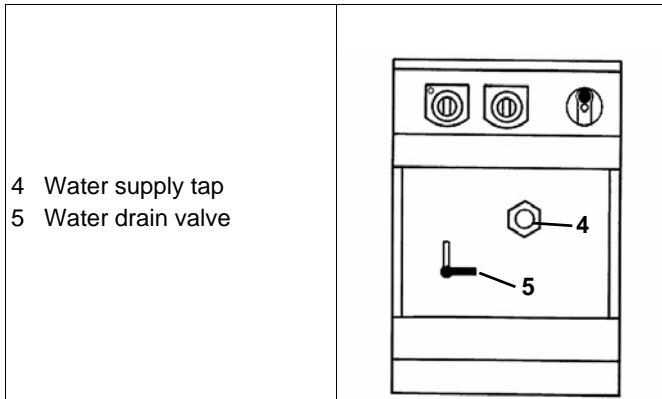

Fig.10 Front view
- ⇒ Turn on main gas tap (1/Fig.10).
- ⇒ Water loss in the trough can be replaced by turning on the tap (4/Fig.10).
- ⇒ Drain the water from the trough by opening the water outlet valve (5/Fig.10) (turn the handle anti-clockwise into the vertical position).